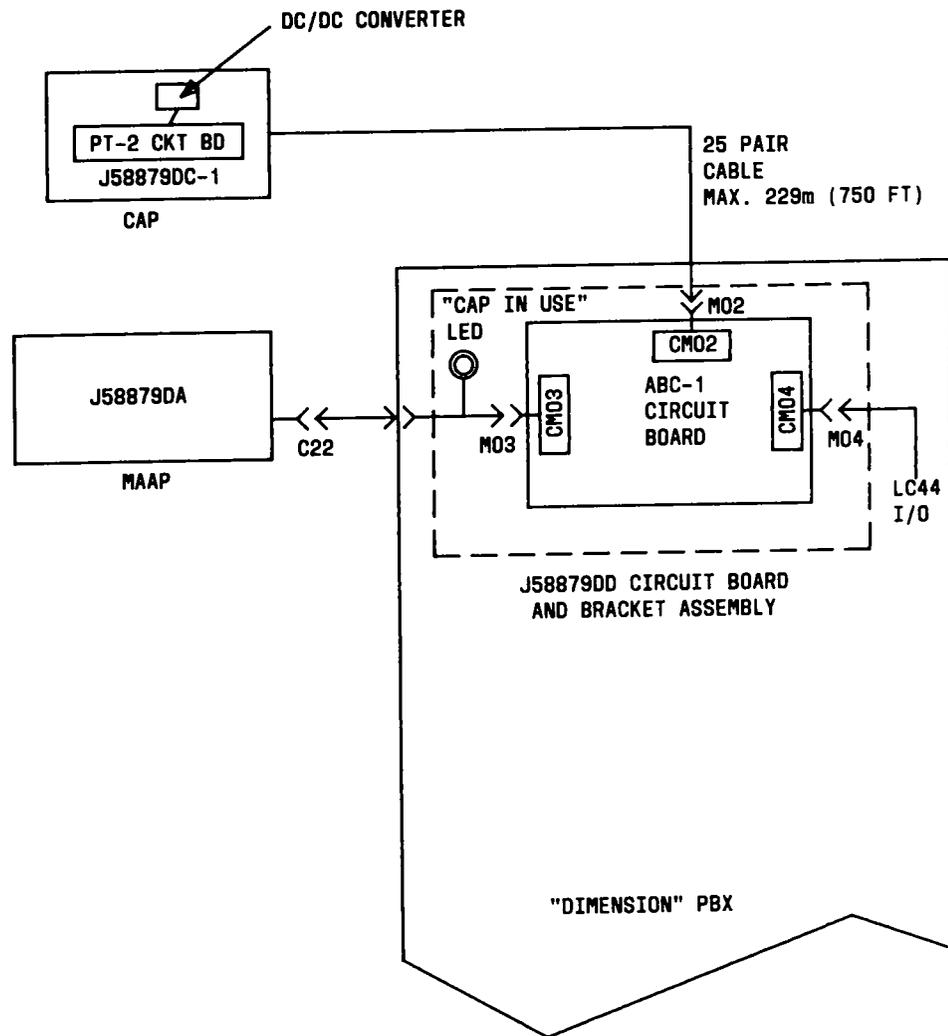

Fig. 12—CAP Interface
**4.38** The CAP can be located up to 229 meters (750 feet) from the PBX. An ON/OFF switch on the side of the CAP activates the customer's unit. Logic in the CAP interface unit disables the MAAAP. The CAP functional block diagram is illustrated in Fig. 12. The interface unit (ABC-1) is mounted within the PBX cabinet. All cabling is provided.